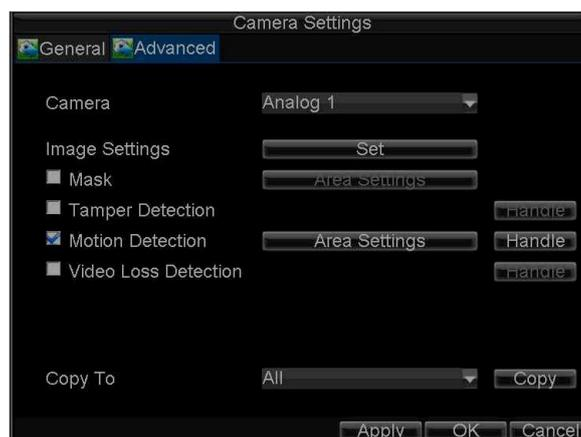

Figure 2. Advanced Camera Settings
2. Select the **Advanced tab to enter the **Advanced Camera Settings** menu, shown in Figure 2.**